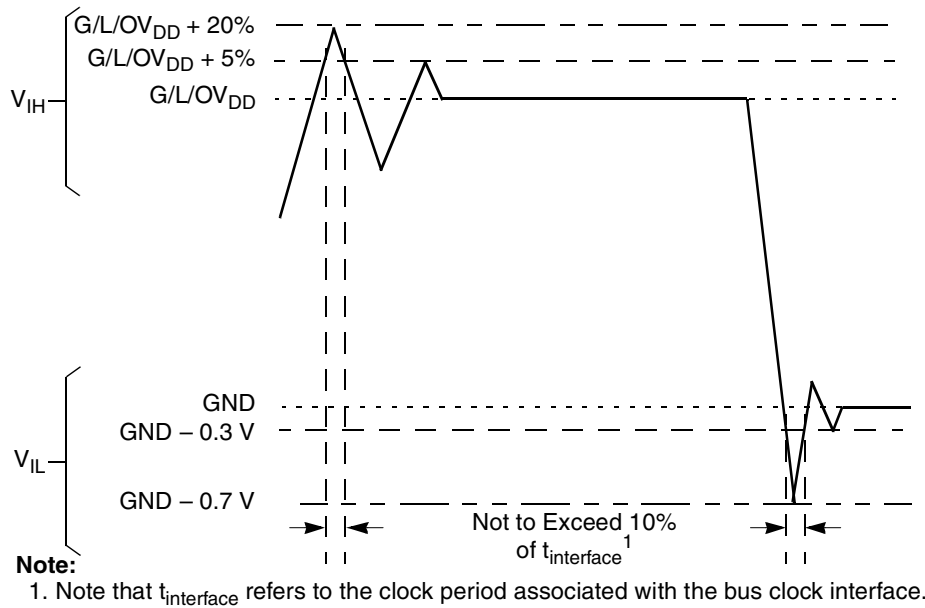

Figure 3. Overshoot/Undershoot Voltage for $GV_{DD}/OV_{DD}/LV_{DD}$
- (M,L,O) V_{IN} and MV_{REF} may overshoot/undershoot to a voltage and for a maximum duration as shown in Figure 3.
Figure 3 shows the overshoot and undershoot voltages at the interfaces of the device.